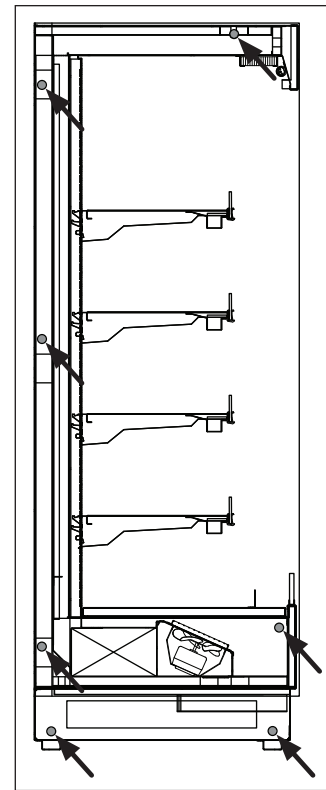

Fig. 3 Bolt locations (QC-30-R)
4. Push the cases tightly together, then lightly bolt them together through the holes provided (Fig. 3). Tighten all the joining bolts until all margins are equal. Be careful not to over tighten.